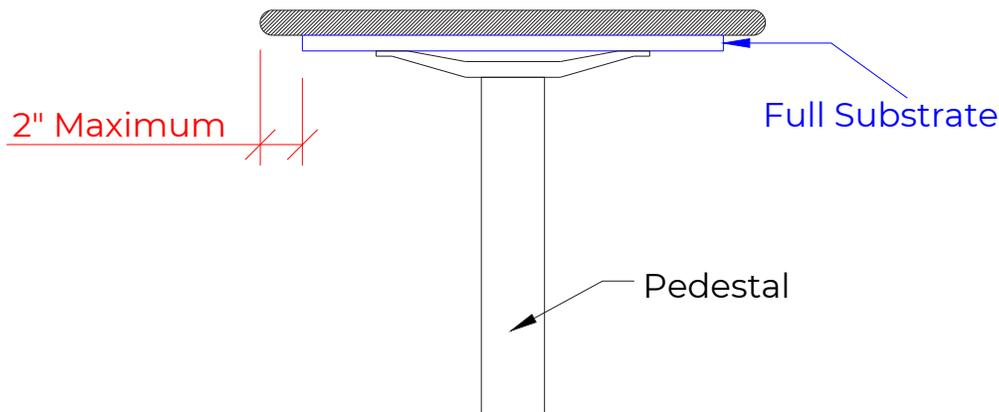

FIGURE 20
- 18. For tabletop applications (with a pedestal base), substrate must extend to within 2" from the perimeter of the tabletop. See Figure 20.